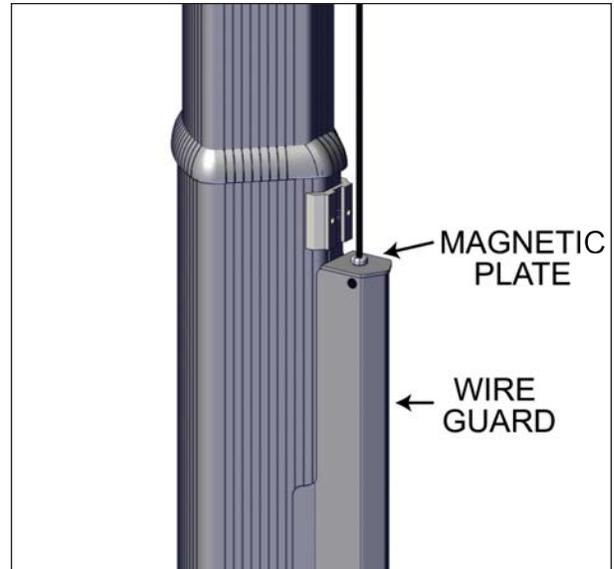
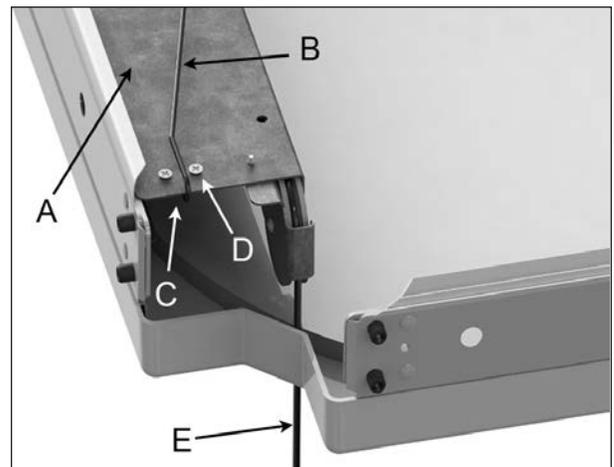

FIGURE 40: MAGNETIC PLATE
FIGURE 41: EXITING WIRE
13. If the cover is completely lowered on the spa, and the exiting wire (Figure 41) seems to have sufficient tension and the magnetic plate is properly positioned (Figure 40), move to the next section, lifting mechanism installation (part 2). If not, follow the next steps.
15. Locate the screws for the tension holder on the CTS-70, see Figure 41. Lightly unscrew them and pull back the tension wire until a slight resistance is felt. Once the resistance is felt, continue pulling another inch. Check the protruding wire going to the posts, and if